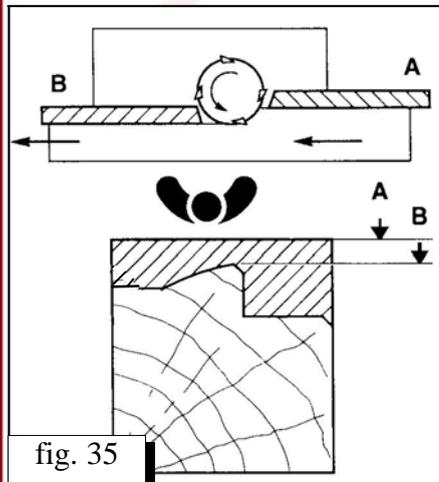

fig. 35
- ⌘ At profiling of the whole side of the detail fulcrum ruler “B” is tuned at the one level with the tool /fig. 35/.